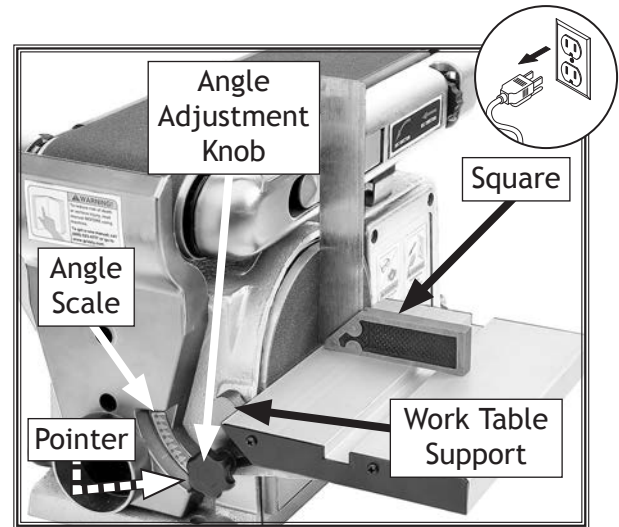

Figure 14. Components for setting work table angle.
2. Loosen angle adjustment knob, and position work table to desired angle using angle scale (see Figure 14).